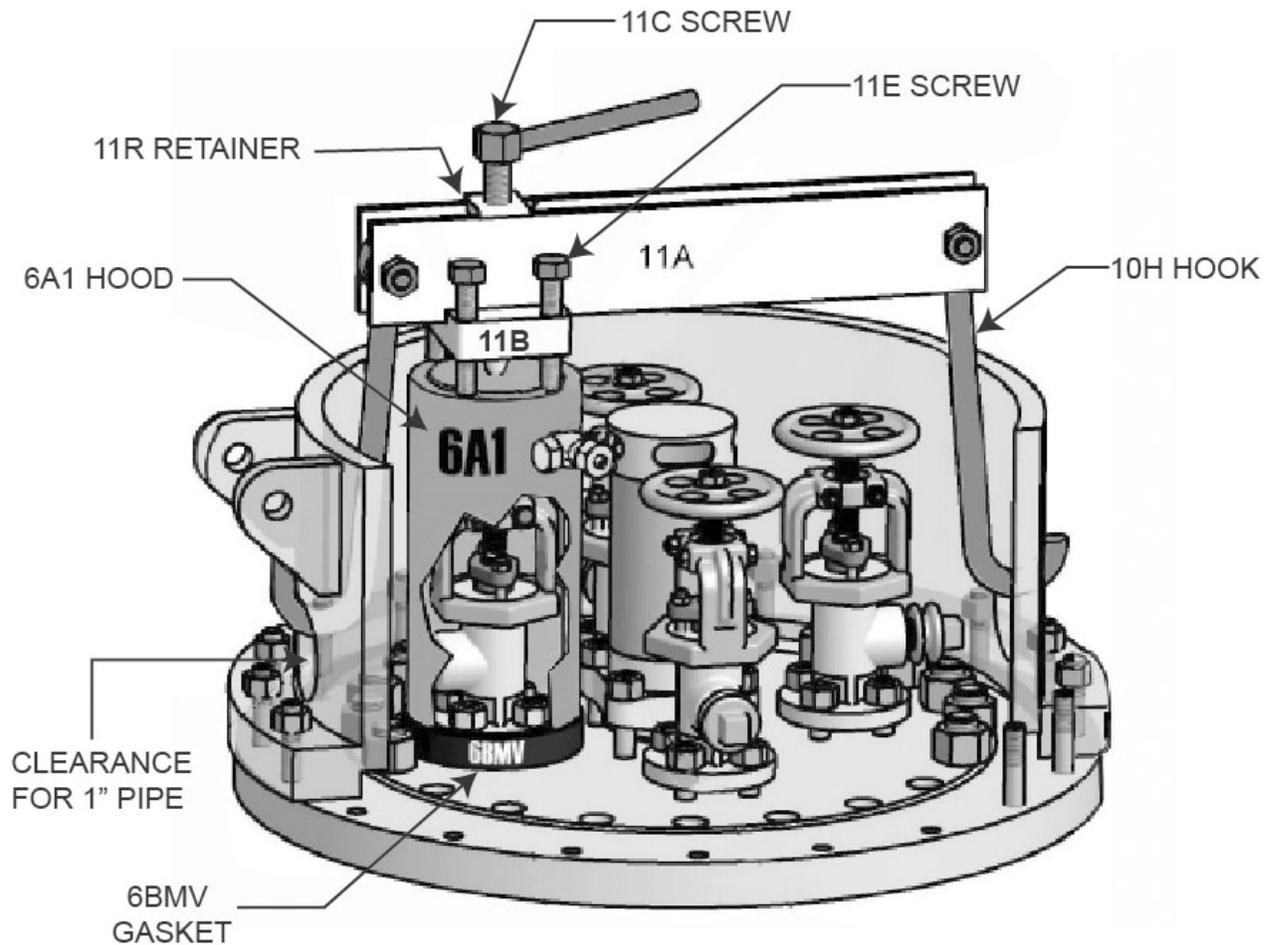

Figure 6 – Device 6, Assembled Over Angle Valve
- C) If leak continues, apply DEVICE 6 (Hood and Yoke Assembly Figure 6) (See Section 6 for instructions).
- B) If leak continues, apply DEVICE 6 (Hood and Yoke Assembly Figure 6) (See Section 6 for instructions).
STEPS – See Figure 6	Equipment